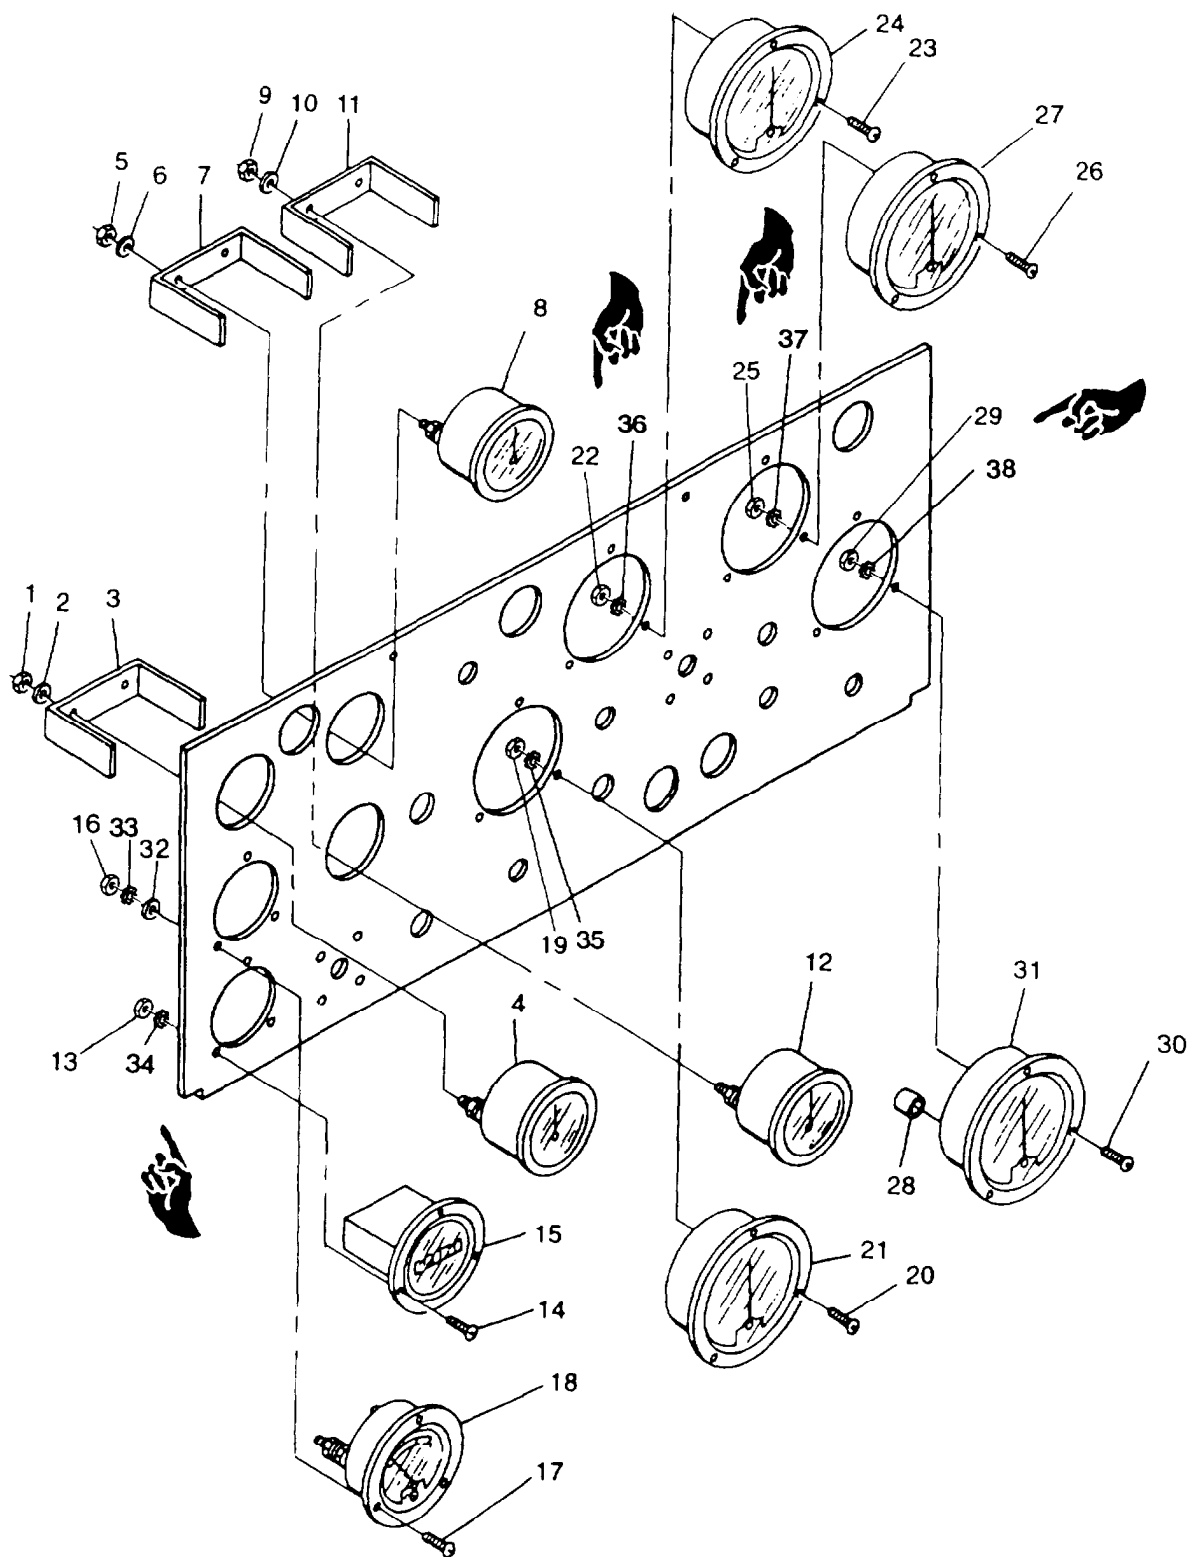

FIGURE 2-12. Control Panel Indicators
- d. Tag and disconnect COOLANT TEMP. indicator (8, FIGURE 2-12) electrical leads.
- e. Remove nuts (5), washers (6), and clamp (7).
- f. Remove COOLANT TEMP. indicator (8) from control panel.
- a. Insert COOLANT TEMP. indicator (8, FIGURE 2-12) in control panel.
- b. Install damp (7), washers (6), and nuts (5).
- d. Tag and disconnect OIL PRESSURE indicator (12, FIGURE 2-12) electrical leads.
- e. Remove nuts (9), washers (10), clamp (11), and ground wire.
- f. Remove OIL PRESSURE indicator (12) from control panel.
- a. Insert OIL PRESSURE indicator (12, FIGURE 2-12) into control panel.
- b. Install clamp (11), washers (10), and nuts (9).
- d Tag and disconnect time meter (TOTAL HOURS) (15, FIGURE 2-12) electrical leads.
- e Remove screws (14), washers (34), and nuts (13)
- f Remove time meter (TOTAL HOURS) (15) from control panel
- a. Insert time meter (TOTAL HOURS) (15, FIGURE 2-12) into control panel
- b. Install screws (14), washers (34), and nuts (13)
- d Tag and disconnect BATTERY CHARGE ammeter (18, FIGURE 2-12) electrical leads
- e Remove nuts (16), washers (32, 33), and screws (17)
- f Remove BATTERY CHARGE ammeter (18)
- a Insert BATTERY CHARGE ammeter (18, FIGURE 2-12) into control panel
- d. Tag and disconnect FREQUENCY meter (HERTZ) (21, FIGURE 2-12) electrical leads.
- e. Remove nuts (19), washers (35), and screws (20).
- f. Remove FREQUENCY meter (HERTZ) (21) from control panel.
- a. Insert FREQUENCY meter (HERTZ) (21, FIGURE 2-12) into control panel.
- b. Install screws (20), washers (35), and nuts (19).
- d. Tag and disconnect ammeter (PERCENT RATED CURRENT) (24, FIGURE 2-12) electrical leads.
- e. Remove nuts (22), washers (36), and screws (23).
- f. Remove ammeter (PERCENT RATED CURRENT) (24) from control panel.
- a. Insert ammeter (PERCENT RATED CURRENT) (24, FIGURE 2-12) into control panel
- b. Install screws (23), washers (36) and nuts (22).